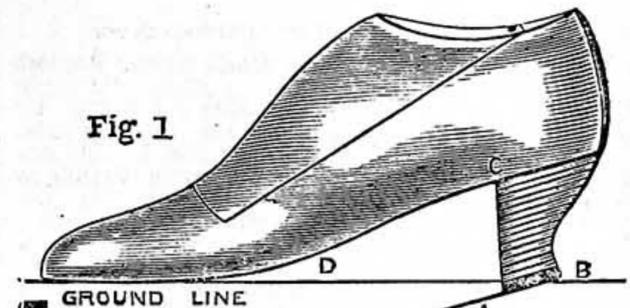
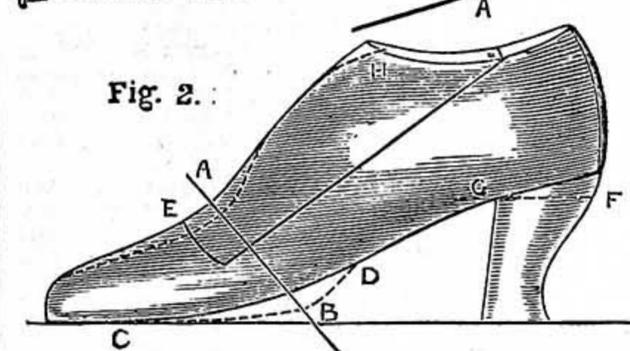
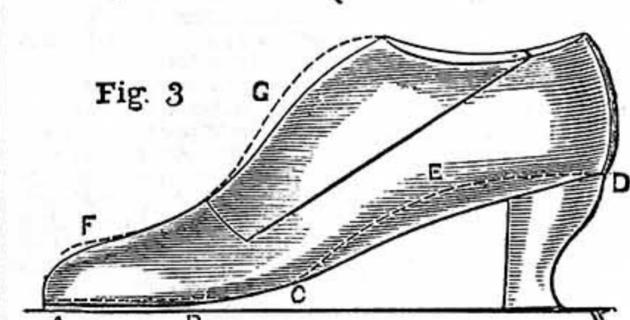

Fig. 1.
Fig. 2.
Fig. 3.
method will be to secure both by utilising strong stout screws, as in section (Fig. 3). If, however, you desire to build the article exactly as it is shown in my drawings as complete, you must join the middle board in the same way that I am about to describe the junction of the bottom board with the pillars. You may have two stout dowel pins to one inner side of the column block, and have a stout screw passing through the remaining inner side; or drive a screw in as in Fig. 2, and insert a separate and rather small square of wood against the block, touching the underside of the bottom board, and there screw and glue it to all adjacent parts. Afterwards fill up all screw holes.—J. S.
Lasts.—S. T. (No Address).—(1) Evidently the last is out of range for the height of heel you wish to make. If it is not much, it can be counteracted by feathering the insole, and sewing close and full, as explained in answer to A. B. (see page 796, No. 101, Vol. II., of WORK); but the last being very bad, it must be remedied by altering its construction. The plain lines describing the lasts in Figs. 1, 2, and 3, are all the same; and it will be seen by Fig. 1 that it is somewhat dead, or flat in the waist. Well, by building a high heel, one lift above the other, without reducing them at the breast, will throw the heel out of range, as shown at A, B, and C (Fig. 1); and if they are reduced at the breast to give a better range, when the boot is worn, and the pressure of the foot put on D, it will press it down to the ground line, and again throw it out of range. To fit the last to prevent this there are two ways, and if the last fits anyone, and has still to have low heels made on them, it will be best to alter them in a way that they may quickly be brought back to their original shape with little trouble. For this, first take the measure of the last round the joint at A B (Fig. 2), and then peg a piece of leather—that has been wetted—on the bottom of the last from C to D and right across; skive the leather down, as shown by the dotted line at B, tapering to nothing at C and D, but making it more gradual from B to C than from B to D. Then rasp the wood away, as shown by the dotted line at A E, until it measures the same as when it was first measured. Then peg another piece of leather on the heel. Let it be quite thick at F, and tapered to nil at G; a little can be taken off the wood at H the other way, and if they are to be used for high heels only, it will be the best. Rasp a piece off the bottom at the toe, from A to B (Fig. 3), as shown by the dotted line, and also from C to D, taking it away most at E, and then this deficiency can be made up at F and G with leather. The plans of the two